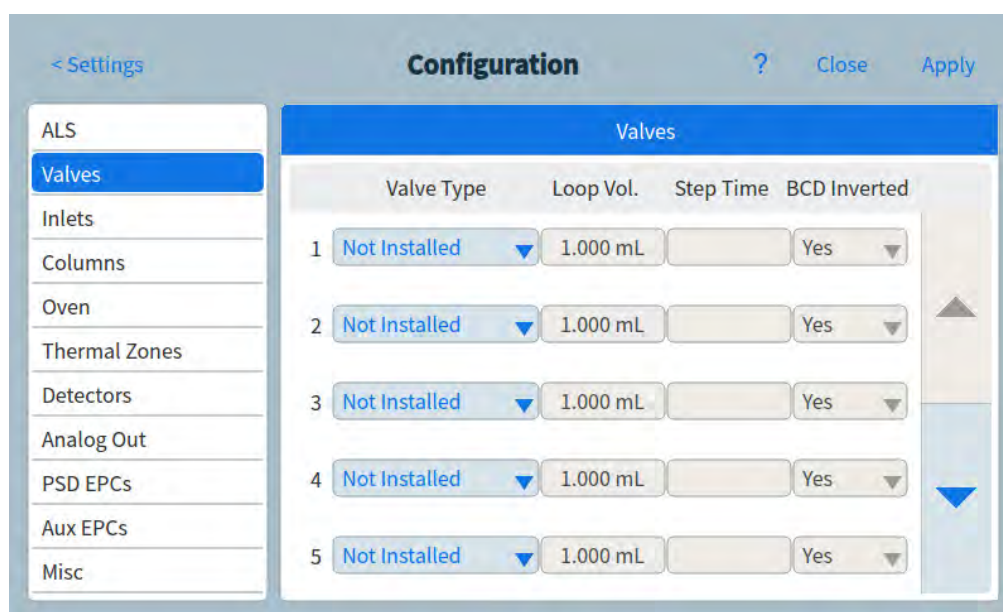

Figure 58. Valves page
- 1 Select **Settings > Configuration > Valves**. See **Figure 58**.